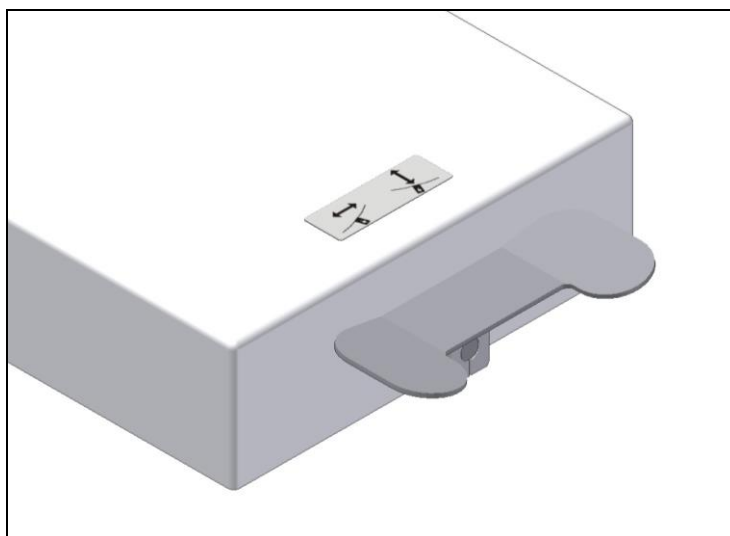

Fig. 5
1. Don't move the unit with the brakes activated. For the movements, use the proper handles and the direction pedal of the front wheels (see Fig. 5).